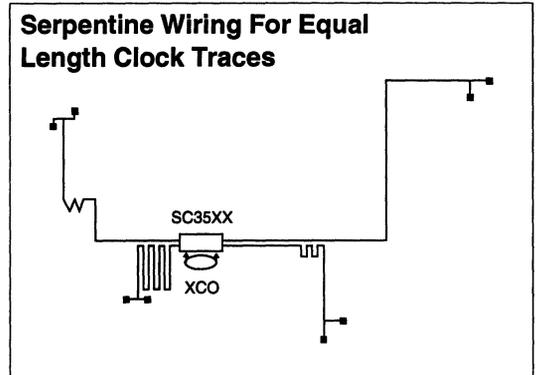

Figure 2
4) To match clock trace lengths, when the receiving devices are differing "Manhattan" distances from the SC35XX driver, the P.C. trace must be lengthened to the closer loads. This can be accomplished by forming a "serpentine" path (Figure 2).
5) Due to the simultaneous switching of up to 20 capacitively loaded output drivers, the +V_{CC} and ground power should be provided by low impedance, well decoupled +V_{CC} and ground planes within the P.C. board (refer to "Summary", pg 8, item 6).